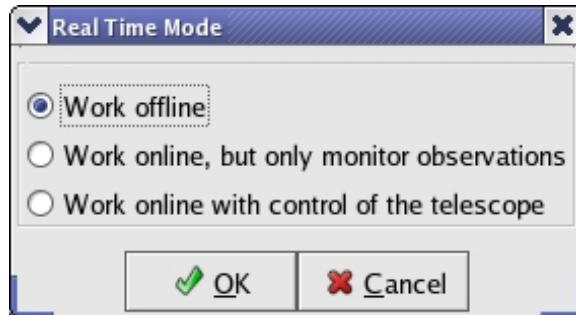

Figure 3.2: When you start Astrid you will see this “pop-up” window which will allow you to choose which mode of Astrid that you would like to use.
Astrid will now ask you what mode you would like to operate in. This will be done via a “pop-up” window which is shown in Figure 3.2.
Step 3 The pop-up window shown in Figure 3.2 appears.